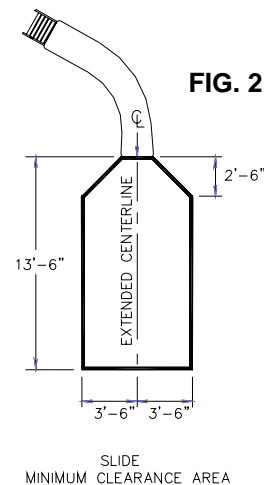

FIG. 2
- A. The minimum clearance distance on either side of the extended centerline of the slide runway shall not be less than three feet six inches (3'-6") at a point no less than two feet six inches (2'-6") from the exit lip of the slide and extending a distance of thirteen feet six inches (13'-6") in front of the slide. (see FIG.2)